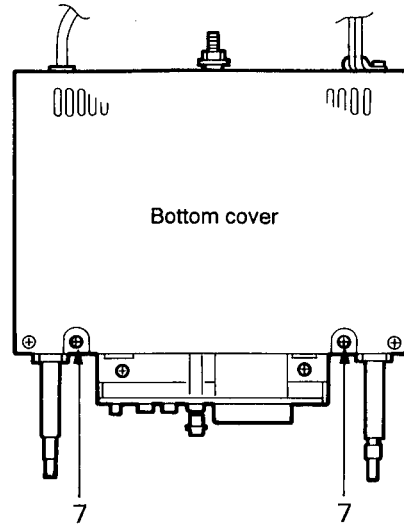

Fig. 2-8
■ **Bottom cover** (Figs. 2-8, 2-9, 2-10)
1. Place the set upside down, and remove two screws (7) retaining the bottom cover.
2. Place the set on its front side and remove two screws (8) retaining the bottom cover.